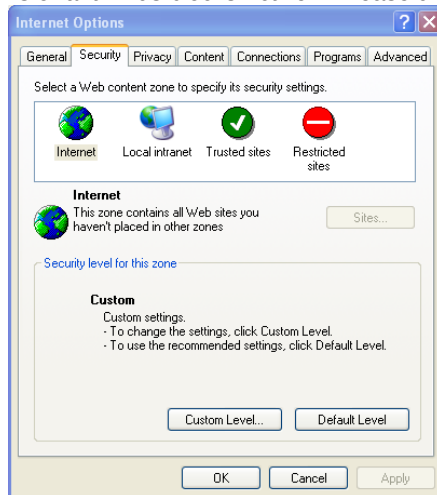

Fig 8.1
① Open IE browser. Click Tools→ Internet Options
② Select Security → Custom Level. Refer to Fig 8.1.